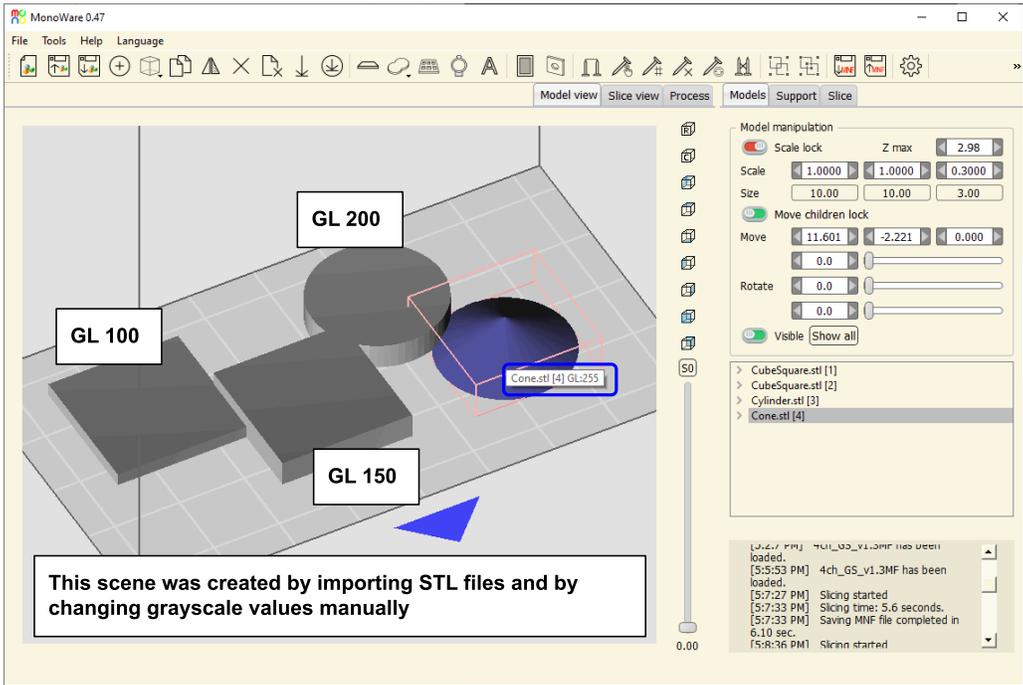

Fig. 16. Single color scene with 4 STL files with different grayscale
- You can also create a scene using regular STL files without a 3MF file as shown in Fig. 16.